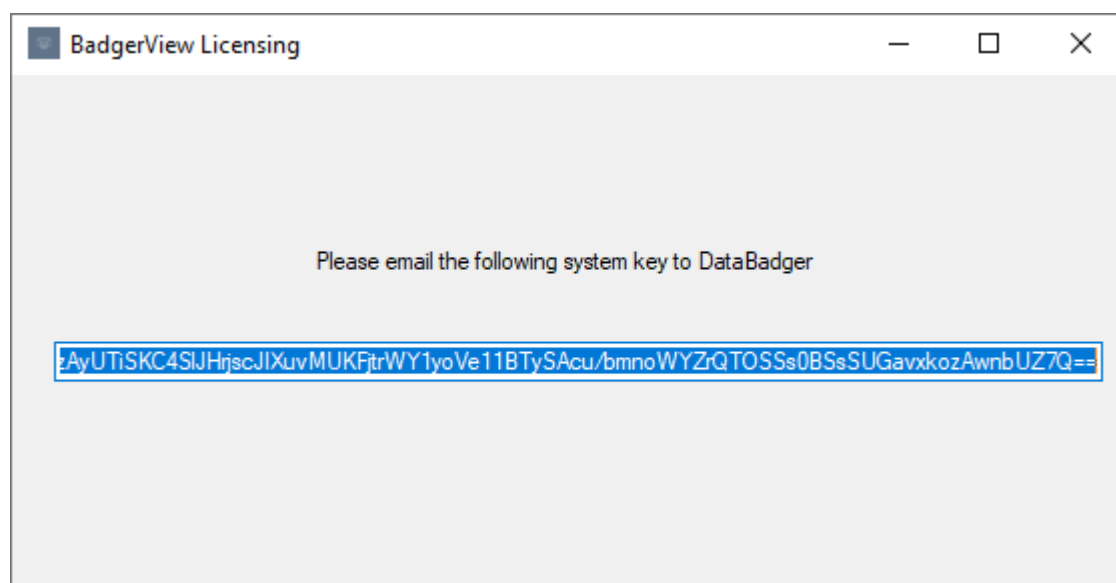

Figure 2: BadgerView licensing window with system key highlighted
4. Copy the system key shown in Figure 2 from the pop up and email to admin@databadger.co.uk. Please also provide a contact name, company name, address, phone number and email.